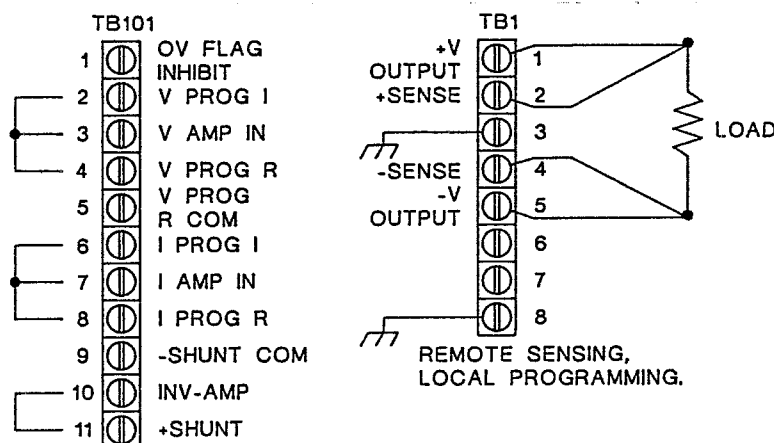

FIG. 2
2.4.2 REMOTE SENSING (Figure 2)